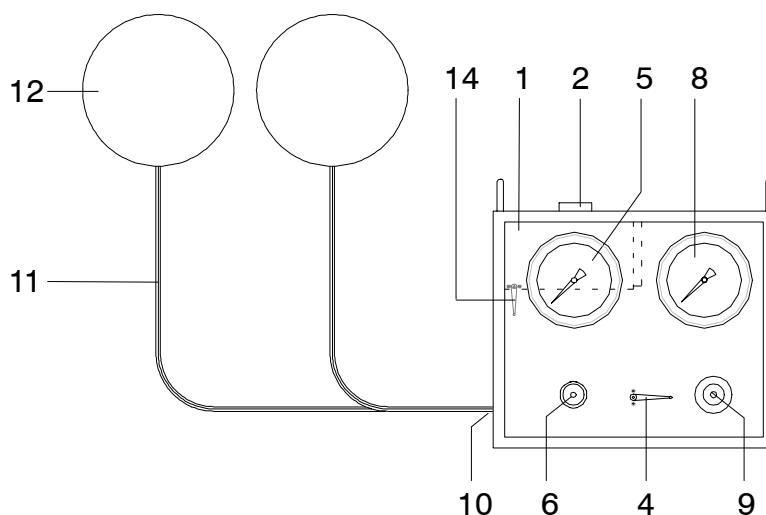

Fig. 2.4 – 2 Pneumatic driven hydraulic pump unit
A hydraulic jack, see fig. 2.4 – 3 for an example, consists basically of a housing (3) and a piston (1) which is accommodated in a recess in the top of the housing. The piston is sealed at the top and the bottom with O-rings, (7) and (8).